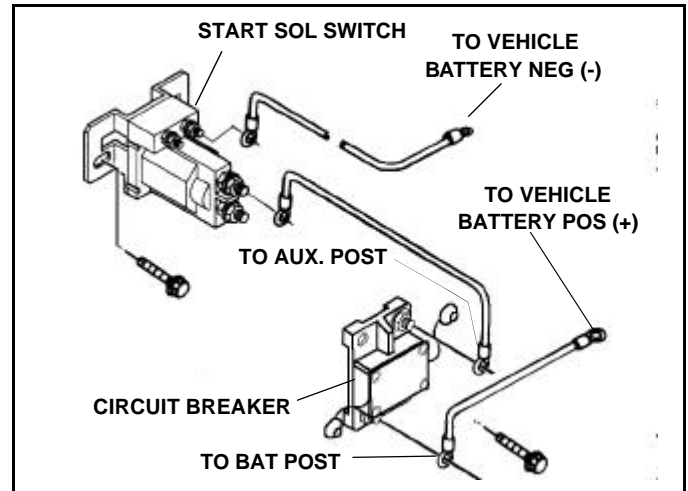

Figure 1-4
18. Attach one of the 2' long Red battery cables to the Aux. Post of the circuit breaker and one of the large terminals of the start solenoid switch. (See Figure 1-4)